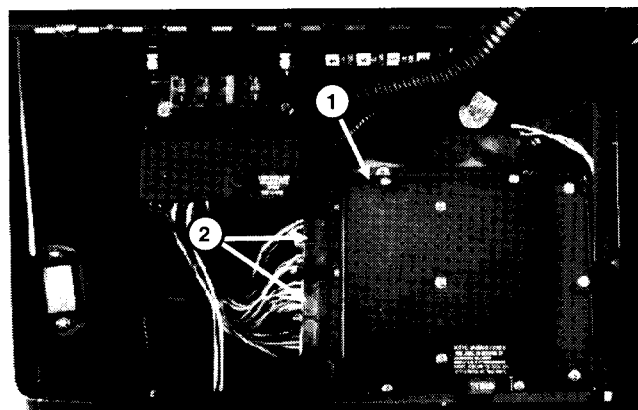

Figure 40
3. Loosen nuts on wiring connectors with a 1/4" nut driver then disconnect wiring connectors from ECU (Fig. 40).